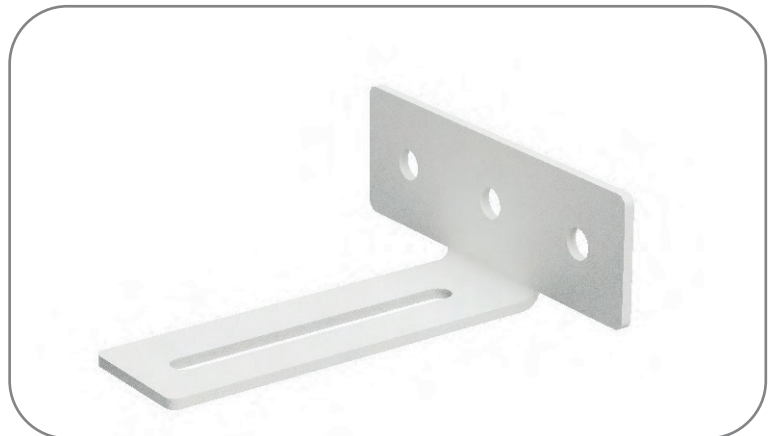

Figure 7.6
STEP 6: Use the Fixing Bracket shown in Figure 7.6 to secure the LBP to the wall.